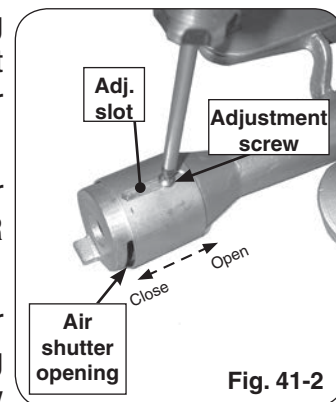

Fig. 41-2
3. Adjust the air shutter opening by loosening the adjustment screw with a screwdriver, then sliding the air shutter backward or forward to open or close the air shutter opening (see Fig. 41-2).